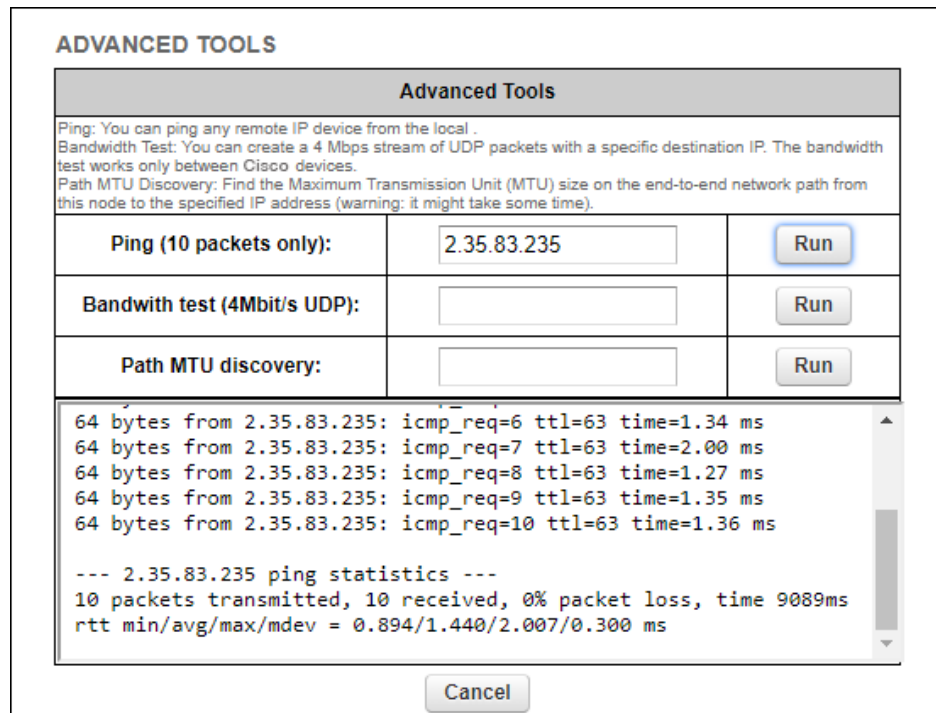

Figure 29. Advanced Tools window (Ping test tool)
2. Enter the IP address of the other unit in the **Ping (10 packets only)** field (Figure 29 \(page 69\)).